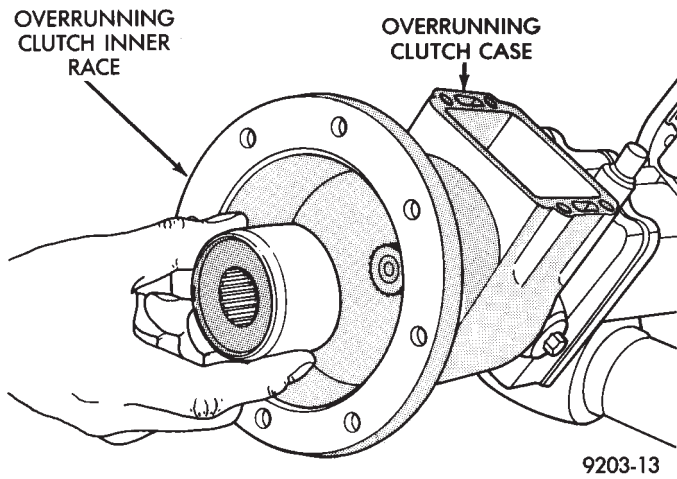

Fig. 11 Remove Overrunning Clutch Inner Race
(8) Slide overrunning clutch inner race off of shaft (Fig. 11).